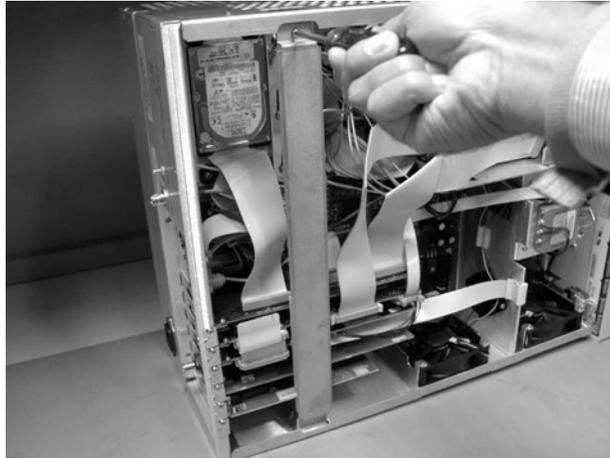

Figure 7-33. Removing the Bar (86100A only)
- 3 Remove two T-10 TORX screws that secure the bar to the mainframe, as shown in Figure 7-33.